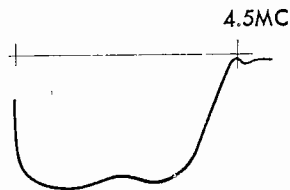

Figure 14
- 3) Arrange the contrast control to its maximum, and adjust 2TIF-437 with its lower cores and the marker frequency should be set to 4.5MC as shown in Fig. 14 in case of which, the waveform roughly shows the video characteristics.